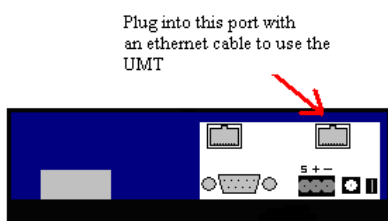

Figure 1
28. Connect the computer and the microprocessor controller with the use of an ethernet cable. Computer should be connected through an ethernet port and the controller through the Web Server port as shown in Figure 1.